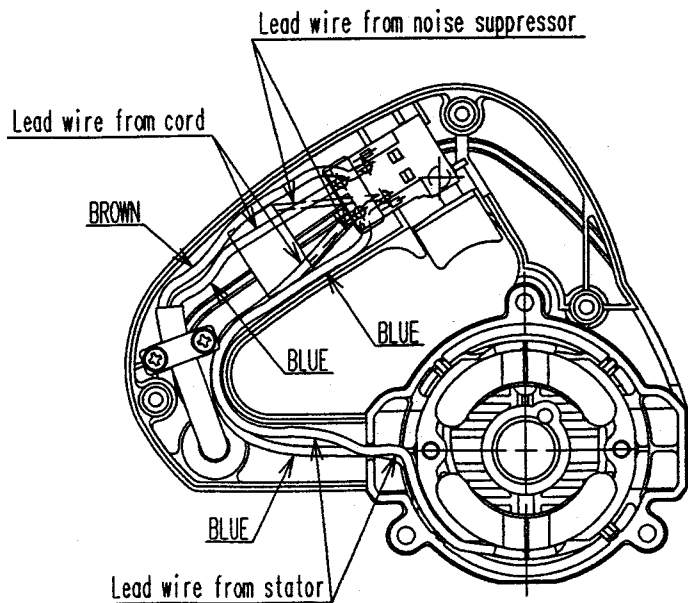

Fig. 12
(6) Wiring procedure (See Figs. 12 and 13.)